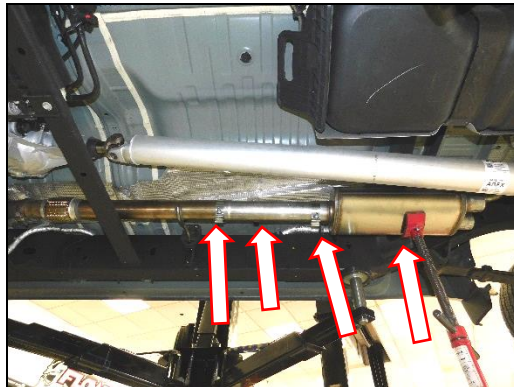

Figure 5
2. Install the (x2) supplied band clamps and extension pipe. Now, install the Blackheart muffler and secure the muffler with a jack stand (**Figure 5**).